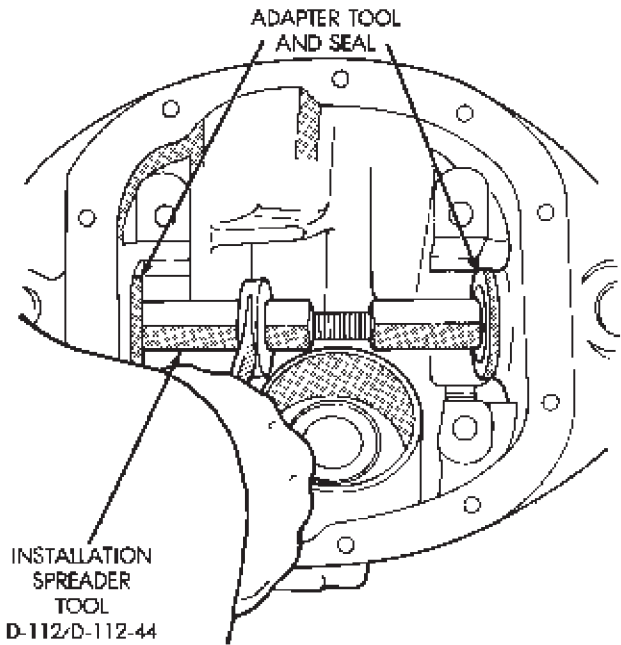

Fig. 27 Axle Shaft Oil Seal Installation
(1) Remove the inner axle shaft seals with a pry bar.
(2) Install oil seals with Adapter D-112-4, D-112-5 and Turnbuckle D-112 (Fig. 27). Tighten tool until disc bottoms in housing. Be sure the seals are not cocked.